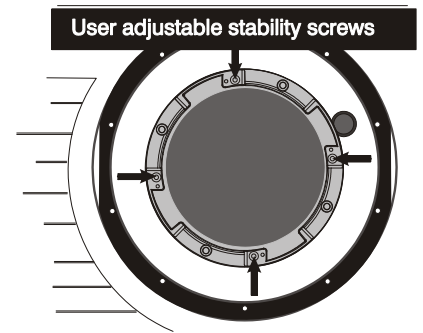
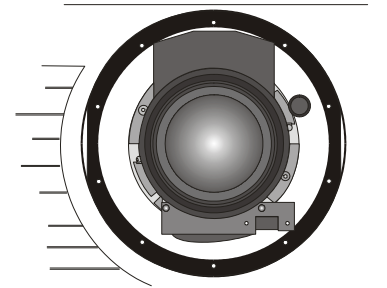

Figure 4.13. Adjustable Screws on Retaining Ring
Figure 4.14. View with Zoom Lens Installed
- **Secure stability screws (optional):** For added stability, secure the adjustment screws provided on the lens-retaining ring (see Figure 4.13). If you have installed a large zoom lens, one or more of the screws may be inaccessible—simply tighten those that are accessible (Figure 4.14).